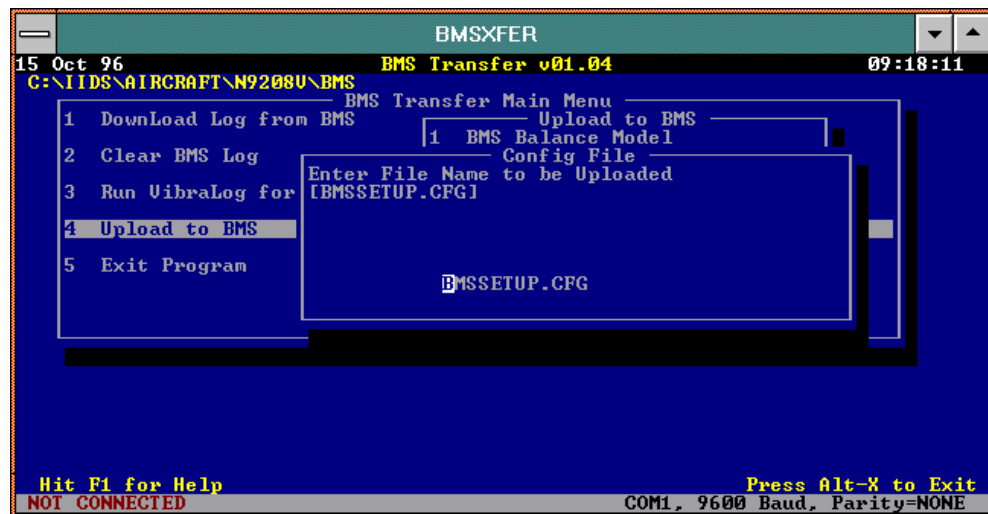

Figure 65. Select Upload File Screen
4. If you are uploading a Setup Configuration file, the following screen will appear and prompt you to enter the name of the file to upload. This defaults to "BMSSETUP.CFG". Press ENTER to confirm(refer to Figure 65).